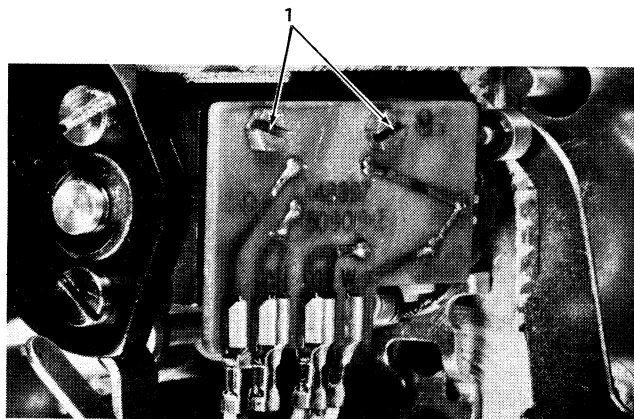

Figure 4-41. Print Feedback Removal (Circuit Board Removal)
2. Remove the two print feedback circuit board mounting screws and remove the circuit board (No. 1, Figure 4-41).